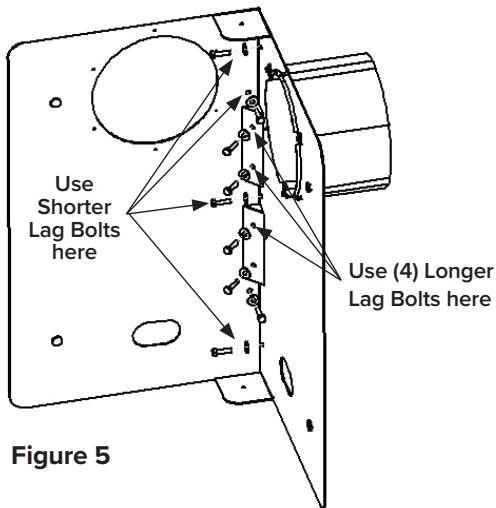

Figure 5
5. Attach the wall plate to the wall with the pass through heat-shields in place, and fasten to the wall using the 9 lag bolts provided. **See Figure 5.**